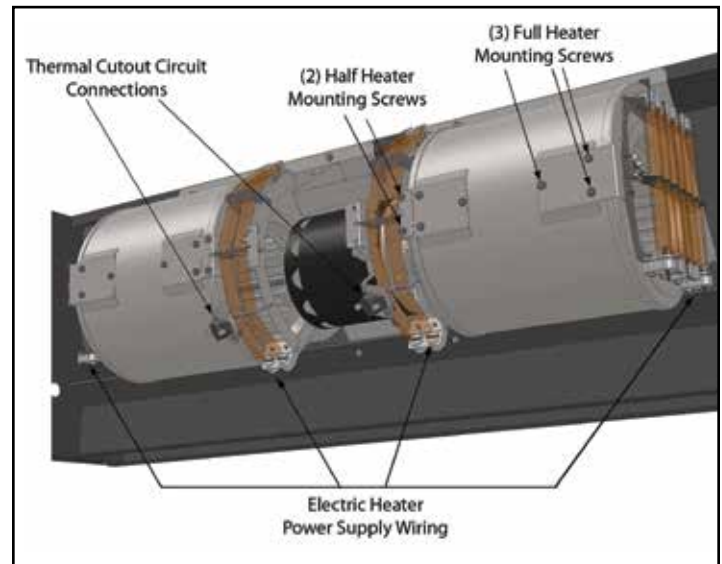

FIGURE 14 - Location of screws
unit has electric heat, label and remove power wires and thermal cutout circuit wires from the heater assemblies. **See Figure 14.**
2. **See Figure 14.** There are (4) heater assemblies per Blower Module. All have (2) power connections. The "Half" heater assemblies also have (2) connections for the thermal cutout circuit. Label and remove all wires on the heaters to be replaced.
3. The (2) "Full" heaters are each held in place by (3) self-drilling screws that go through the heater mounting bracket into the fan housing. The (2) "Half" heaters are each held in place by (2) self-tapping screws that go through the heater frame into the mounting bracket that is attached to the fan housing. Remove all fasteners on the heaters to be replaced.